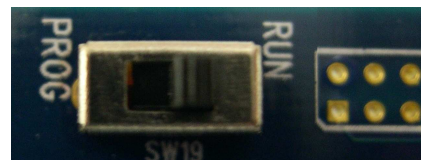

Figure 2.2. JTAG/Operation (RUN) mode and AS Mode (PROG) switch setting.
6. Make sure the **[RUN<->PROG]** switch is set to **RUN** position (Note that PROG position is only used for AS Mode programming). Please refer to Figure 2.2.